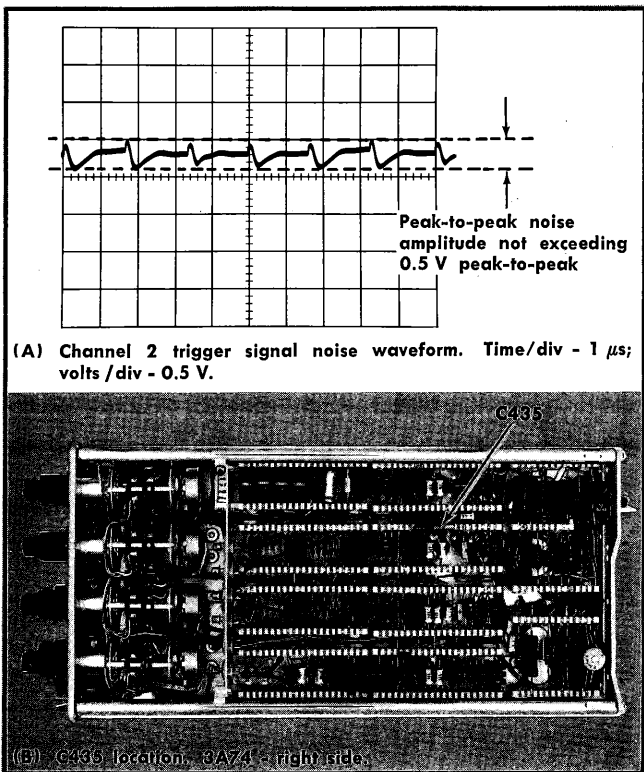

Fig. 5-15. Waveform and adjustment location for steps 18 and 19.
d. CHECK—Channel 2 trigger signal noise. Noise displayed on the Test Oscilloscope should not exceed 1 division (500 mV) peak to peak. See Fig. 5-15 (A).
(1) Turn the Oscilloscope off and remove the 3A74 from the Oscilloscope. Reconnect the 3A74 to the Oscilloscope through the plug-in extension.